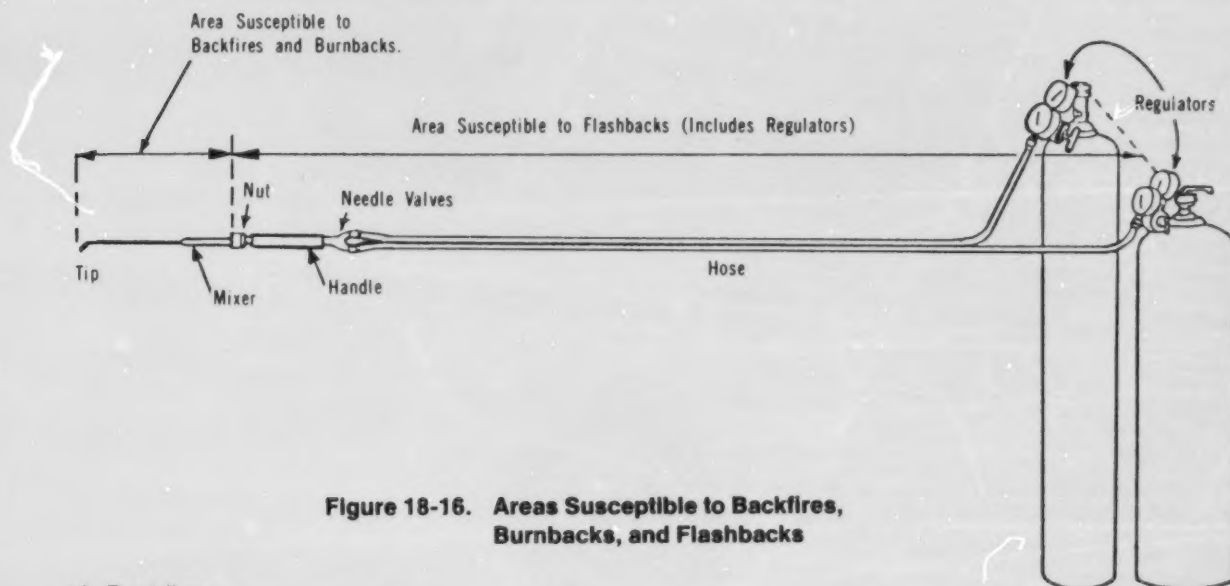

Figure 18-16. Areas Susceptible to Backfires, Burnbacks, and Flashbacks
g) Figure 18-16 shows the areas that are susceptible to backfires, burnbacks, and flashbacks.